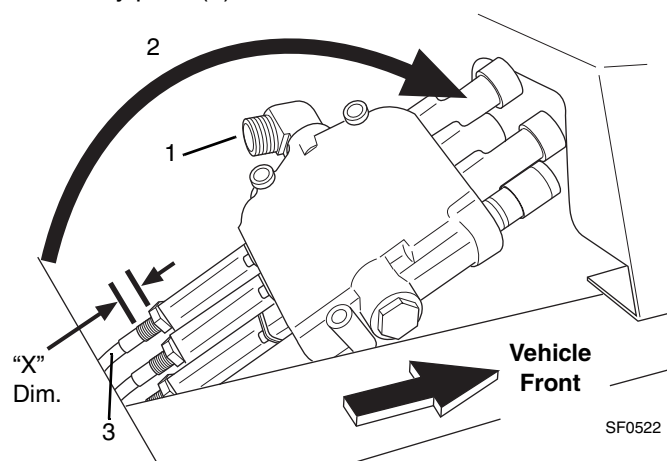

Figure 7-44 Main Control Valve Removal
5. Remove the hose from the elbow fitting (Fig. 7-44, 1) on the left side of the main control valve. Cap the fitting and plug the hose end to prevent contamination from entering the valve and/or hydraulic system.
6. Remove the three capscrews holding the valve to the crossmember, saving the hardware for reassembly. Carefully pull the valve toward the front of the vehicle, with the control cables attached, up and away from the crossmember and lay forward (Fig. 7-44, 2).
7. Before disconnecting the inside cable (Fig. 7-44, 3), measure the length of the exposed threads ("X" Dimension) on the cable housing to the first jam nut. Record this measurement for reference during cable installation.